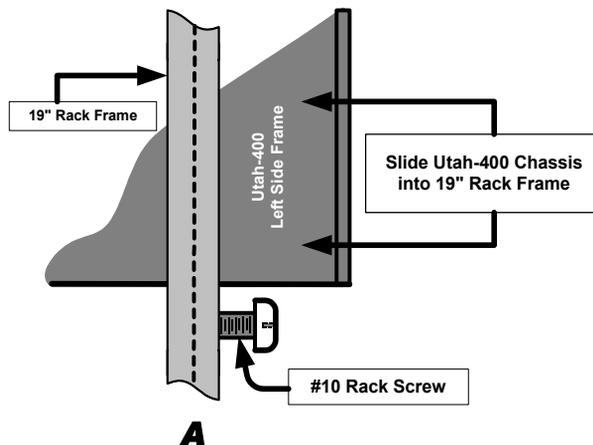

FIGURE 2-3. Sliding the Utah-400 Chassis into Rack Frame
- b. Install two rack screws 3/4 of the way into the empty rack frame below the height determined in step a, above (leave a 1/8" gap). These screws will be used to support the weight of the chassis when it is moved into the rack frame. See Figure 2-3, Section A.